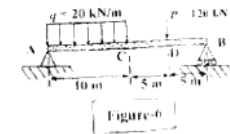

Figure-6
9. Find the slopes at the supports of the simply supported beam shown in Figure-6. using the moment area method.